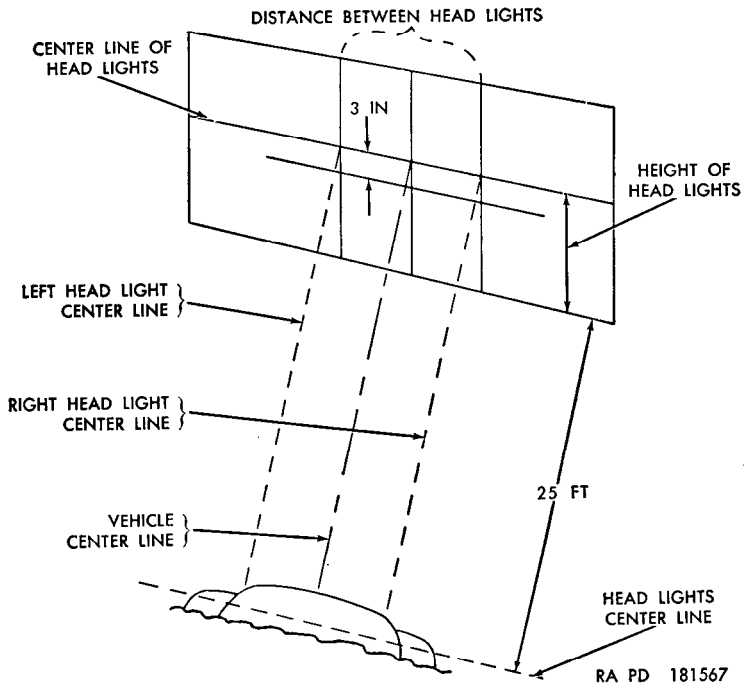
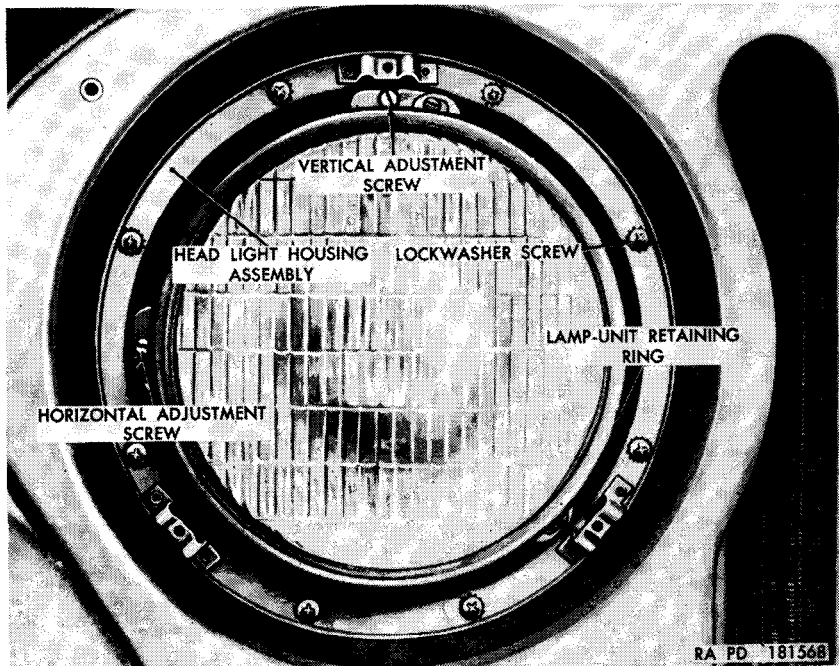
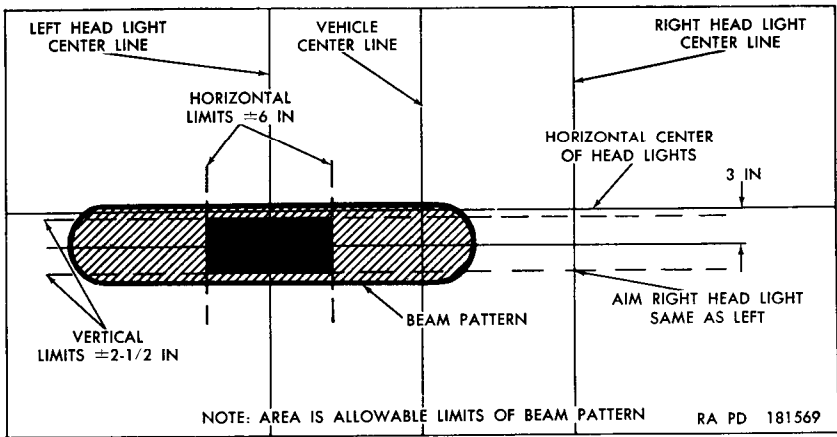

Figure 71. Headlight aiming chart.
Figure 72. Headlight adjustment screws.
Figure 73. Headlight beam pattern.
*b. Headlight Adjustment.* Place the vehicle on a level surface and arrange a wall target as shown in figure 71. Remove the headlight guard and door assembly (a(1) above). Cover headlight not being adjusted. Turn on the headlights (par. 33) and be sure that the high beam is on (par. 40). Aim the headlight by turning the adjustment screws (fig. 72), as required, until the headlight beam conforms with the headlight beam pattern (fig. 73). Turn off the headlights. Install the door and guard (b(2) above).
(1) Remove the headlight sealed lamp-unit (a(1) above).